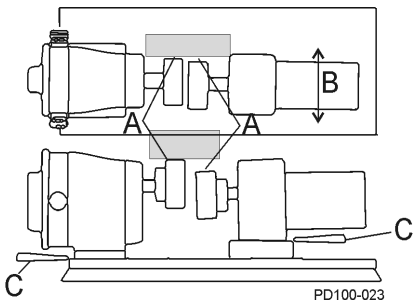

Figure 25 - Check Parallel Alignment
2. Using a feeler gauge at location "A" in Figure 25, determine the direction and amount of movement needed (Figure 25, item B).